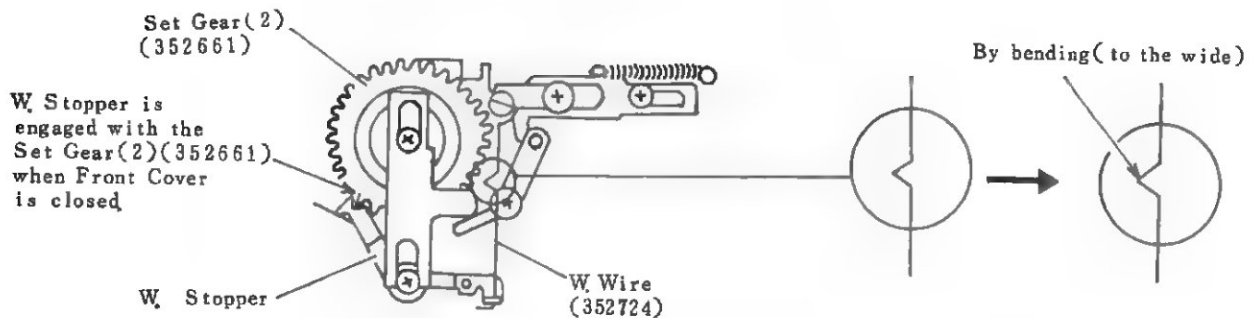

Fig 20
(3) Check and Adjustment of Winding.
- c) If winding operate when Front Cover is closed, adjust by bending W. Wire(352724) located under the Upper Base Plate(1) Assy as shown in (Fig 20).